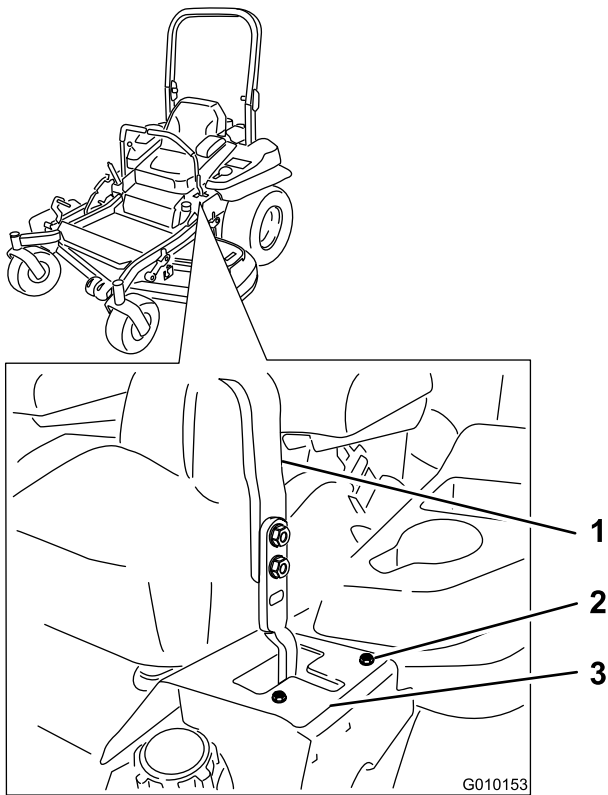

Figure 55
6. If it tracks to the right, loosen the bolts and adjust the left stop plate on the left T-slot until the machine tracks straight (Figure 55).
7. If it tracks to the left, loosen the bolts and adjust the right stop plate on the right T-slot until the machine tracks straight (Figure 55).
8. Tighten the stop plate (Figure 55).